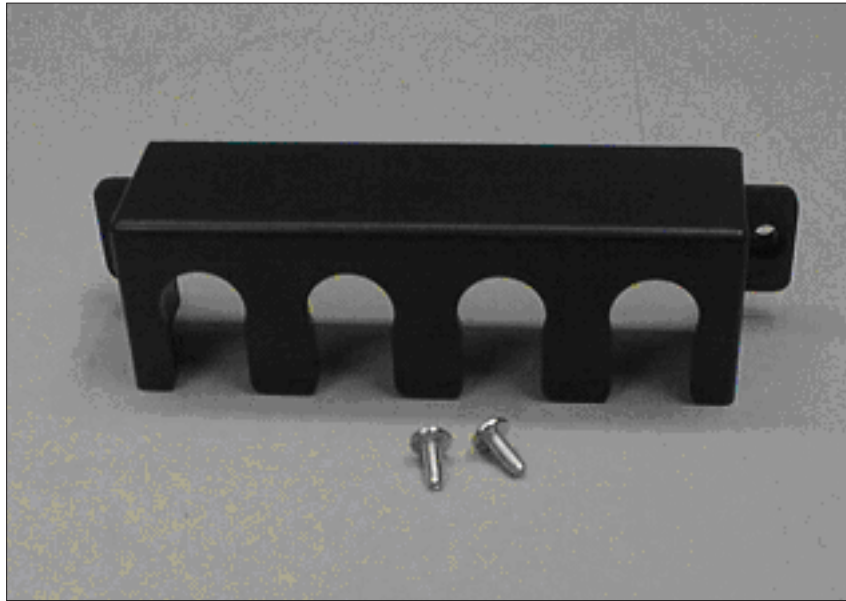

Figure 26. The 2145 UPS-1U cable retention bracket hardware
2. Remove the bracket and the two screws from the packaging. See Figure 26 on page 66